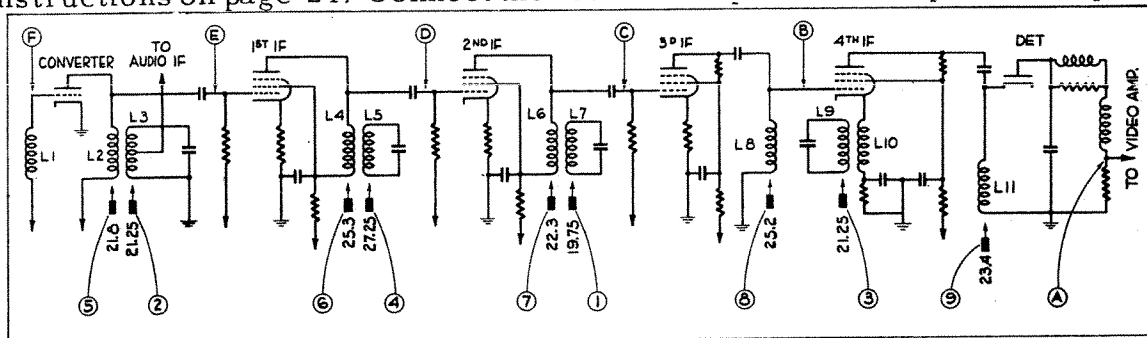

FIGURE. 4. TYPICAL TV VIDEO IF SYSTEM
10. Refer to the receiver manufacturer's literature for the frequencies which will be required during the adjustment. Determine the logging scale settings to tune these frequencies; use the instructions given under CALIBRATION PROCEDURE in this manual. The frequencies specified for this example of a typical circuit are; 19.75, 21.25, 21.8, 22.3, 23.4, 25.2, 25.3, and 27.25 mc. See figure 4. A new tendency among receiver manufacturers is to use an intermediate frequency centered around 45 mc.
11. Set the OUTPUT cable termination for 75 ohms by jumpering terminals 6-7-8-9-5 and terminals 2-3-4. (Open termination may be preferred. See table 2 for instructions.) Connect the alligator clip on the end of the probe to point "F" of figure 4. Connect the ground lead of the probe to the receiver chassis. Note that the alligator clip and ground lead may provide too much inductance for use at 45 mc. See the special instructions on page 24. Connect the SIGNAL INPUT cable to point "A" of figure 4.
13. Set the A. M. GENERATOR logging scale to the point recorded for 19.75 megacycles and adjust L7 (point "1" of figure 4) for minimum pattern height. If the pattern disappears completely, increase the attenuator setting until the exact minimum point can be observed.